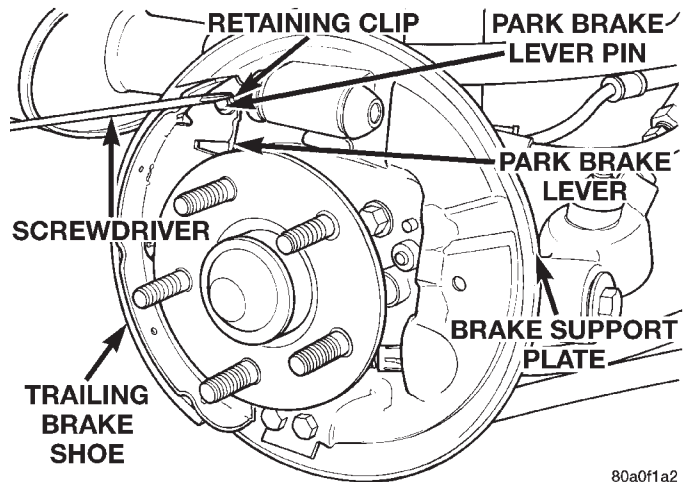

Fig. 65 Park Brake Lever Retaining Clip
(10) Remove the retaining clip (Fig. 65) holding the park brake actuating lever to the trailing brake shoe.